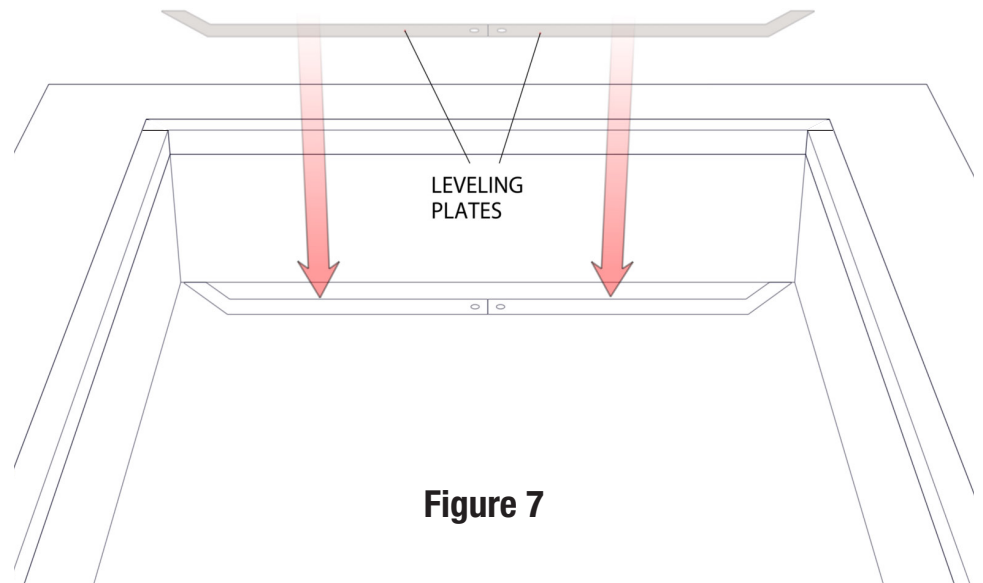

Figure 7
2. Place the leveling plates in the back of the pit, as shown in **Figure 7**.